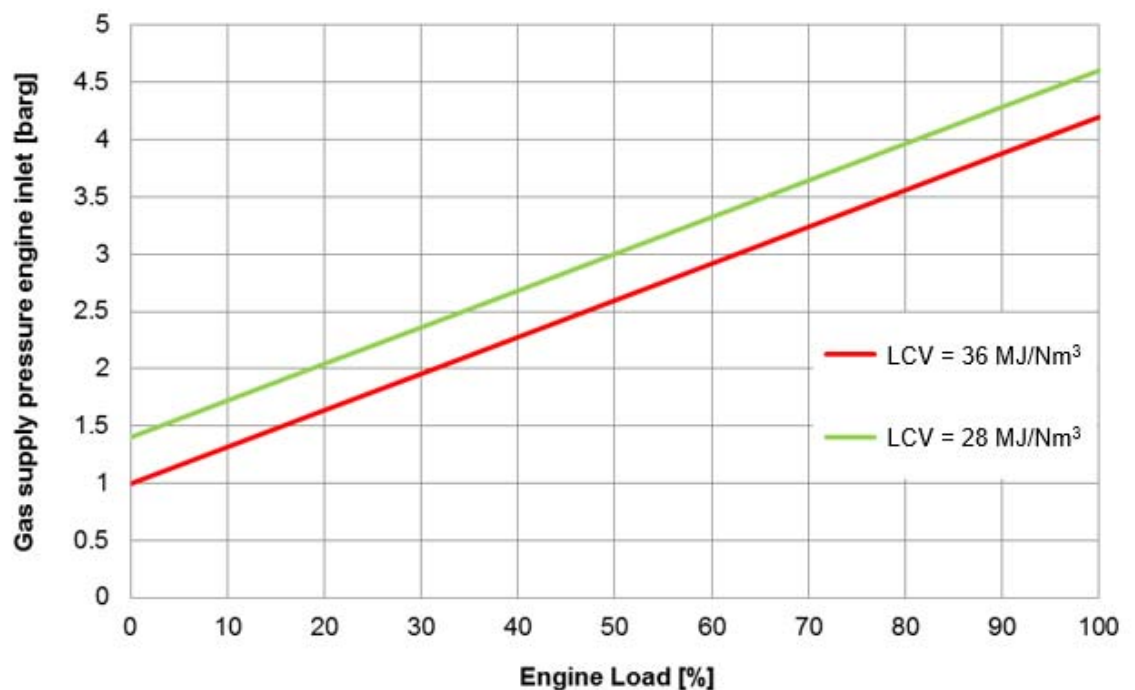

Figure 5.2 Gas supply pressure at engine inlet
- ✓ Refer to Figure 5.2 for required gas pressure
Gas supply pressure can be interpolated in case of 36 MJ/Nm^3 and 28 MJ/Nm^3 of gas lower heating value as Figure 5.2. The gas supply pressure at gas regulating unit inlet, G11 (See the diagram Figure 6.6) should be considered as followings;